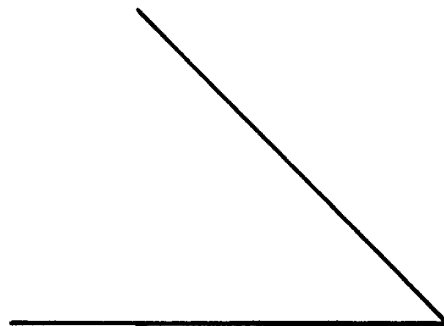

Fig. 7
29. Using drawing instruments, bisect the given angle in Figure 7.